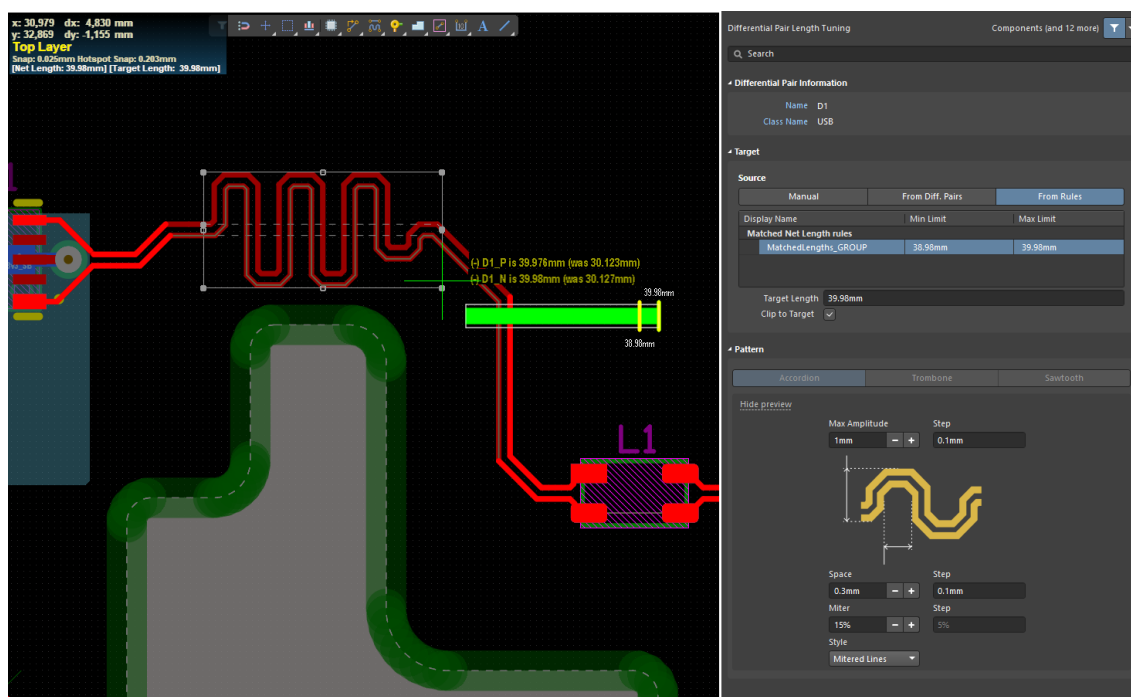

Figure 3. Differential Pair length tuning for USB\_TOP
11. Start the **Interactive Diff Pair Length Tuning** command from the **Route** menu, or from the **ActiveBar** . Tune the **USB\_TOP** to the target Length of 39.9mm as seen in Figure 3.